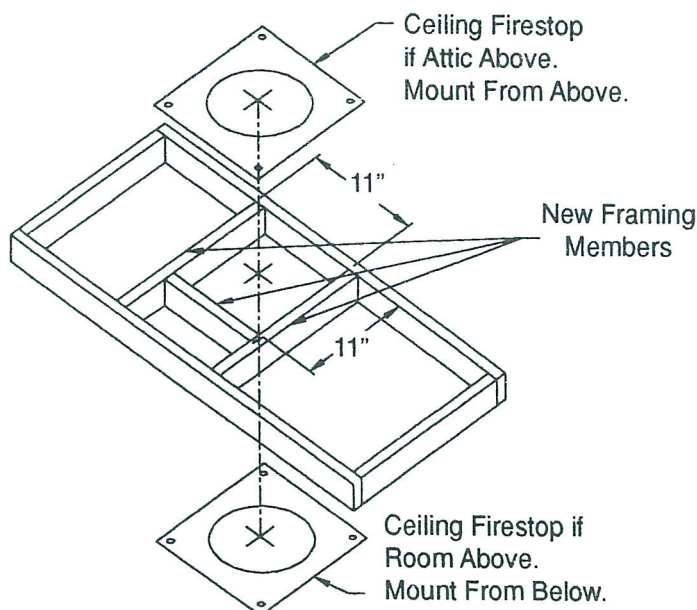

Figure 18: Ceiling Firestop Location
- Frame the hole with framing lumber the same size as the ceiling joists. See Figure 18.